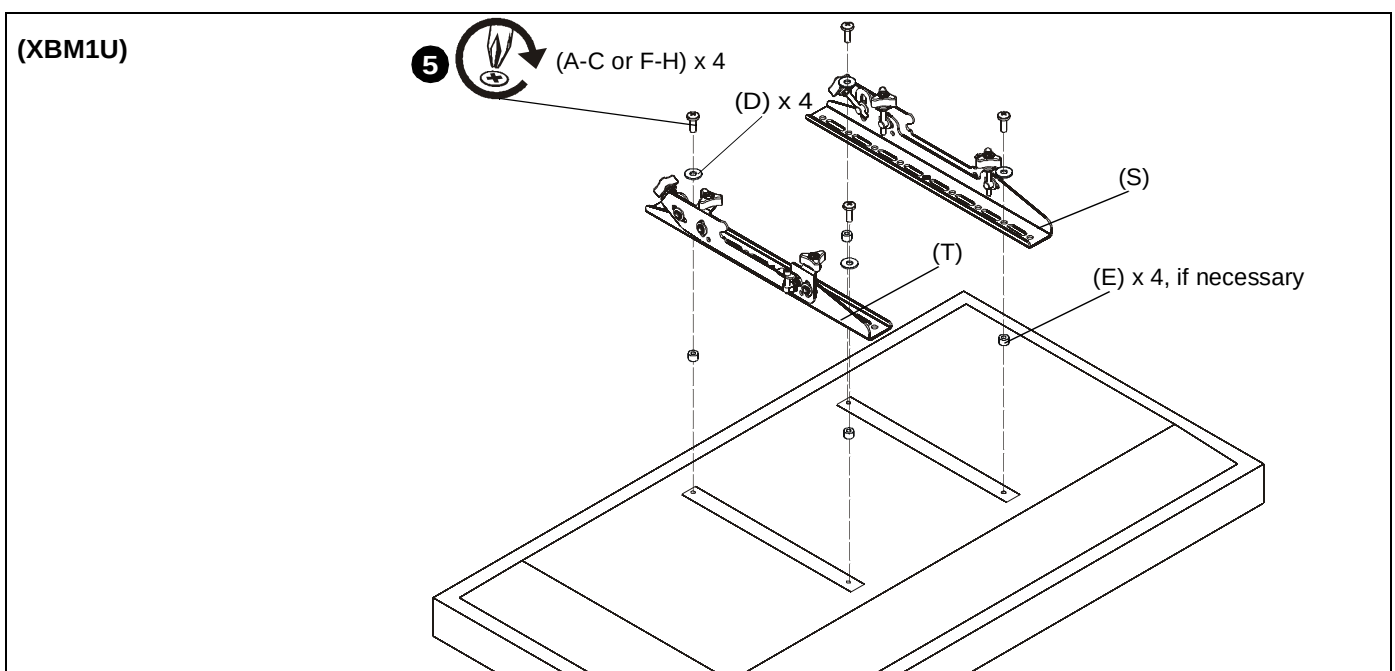
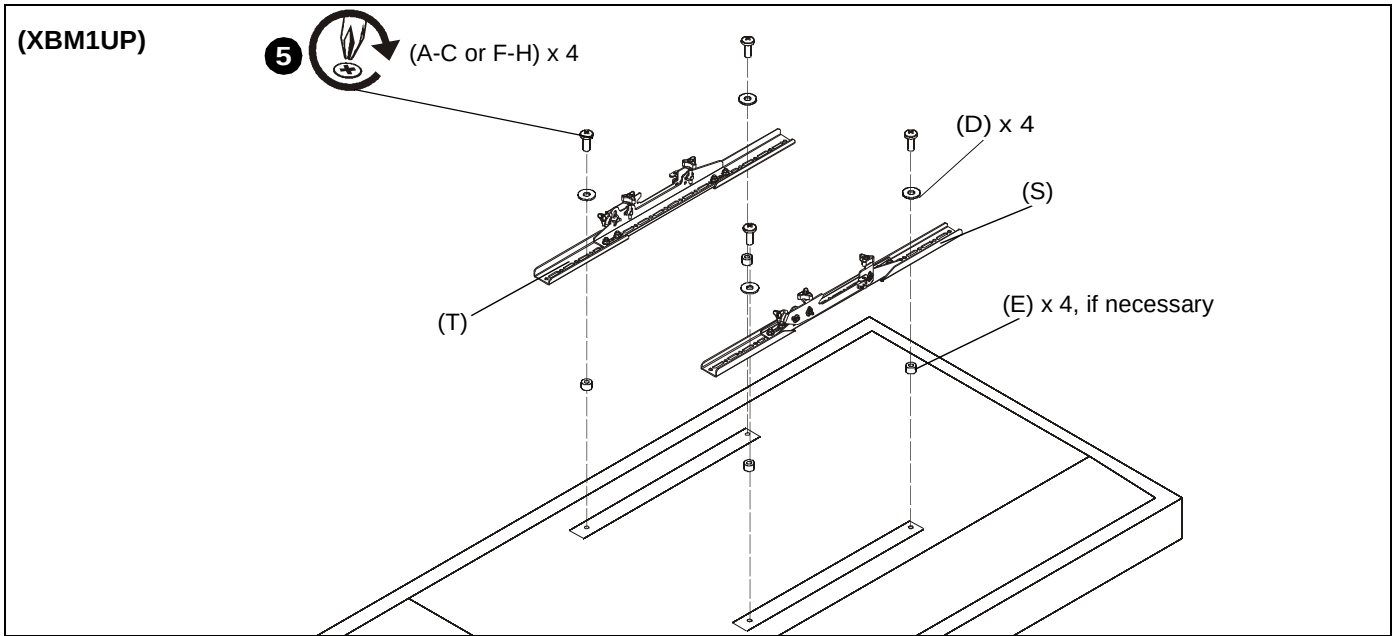

Figure 9
Figure 10
2. Select screw *diameter* by examining hardware (A-C and F-H) (6mm or 8mm) and comparing with mounting holes on display. (See Figure 9) or (See Figure 10)
- If mounting holes are recessed, or if protrusions prevent brackets (S and T) from laying flat, then spacers (E) must be used.
4. Select screw *length*: (See Figure 9) or (See Figure 10)
- Using your hand, insert **SHORTEST** length screw of selected diameter (A or F) through 1/4" washer (D), bracket (S or T), selected spacer (E, if required), into display mounting hole. Do NOT thread screw into hole at this time.
5. Use selected screws (A-C or F-H), washers (D) and spacers (E), if necessary, to connect interface brackets (S and T) to back of display. Make sure diamond on interface brackets is even with center of display. (See Figure 9) or (See Figure 10)